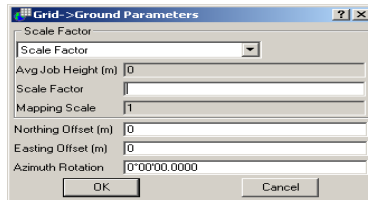

Figure 3-45. Grid->Ground Parameters Dialog Box
3. On the *Grid->Ground Parameters* dialog box, enter the transformation parameters (Figure 3-45).